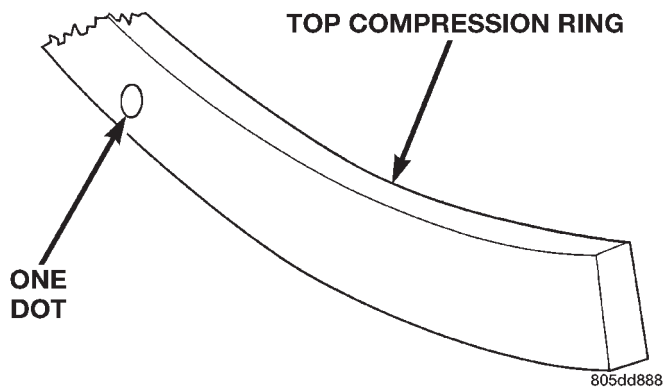

Fig. 10 Top Compression Ring Identification
(6) The two compression rings are different and cannot be interchanged. The TOP compression ring can be identified by 1 dot on the top surface of the ring (Fig. 10).
(9) The top compression ring has a dot located on the top surface (Fig. 10).